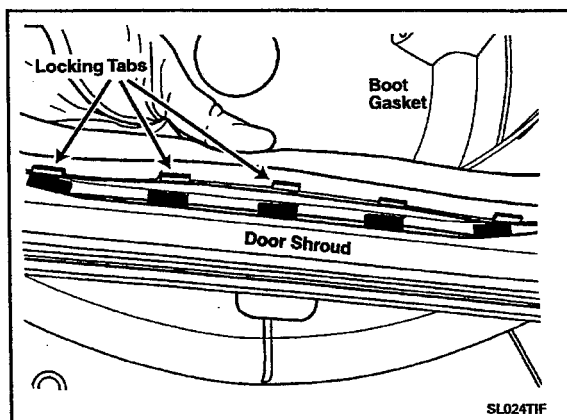

Figure 2-41
6. Unsnap the locking tabs of the door boot around the inside perimeter of the door shroud (*Figure 2-41*).